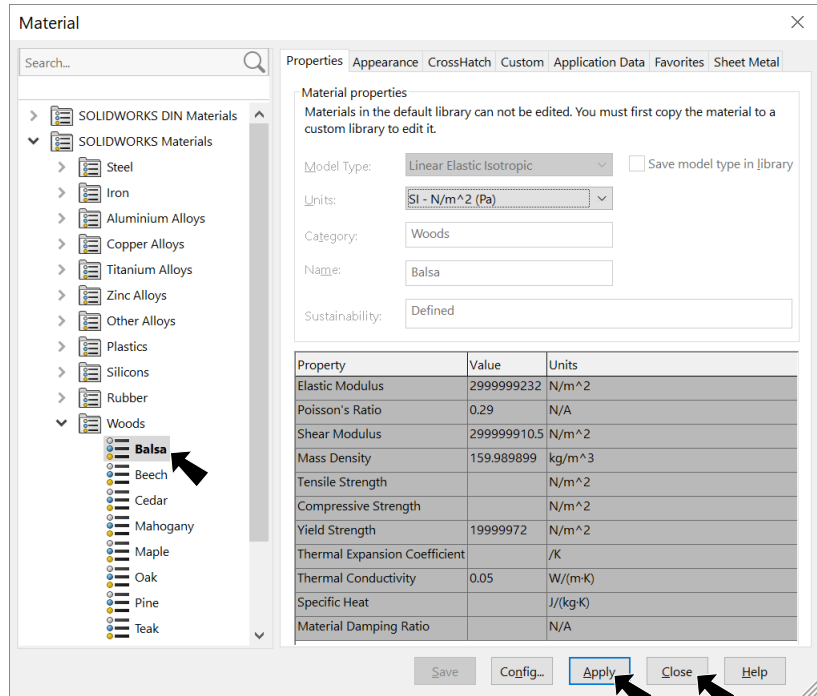

Fig. 29
Step 2. Expand Woods (click ) in the material tree and select Balsa, Fig. 29. Click Apply and Close.